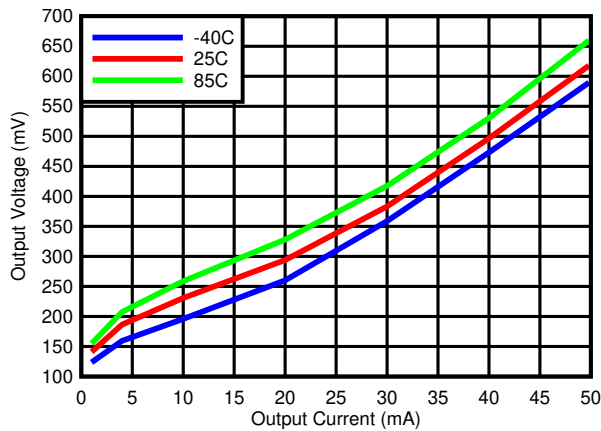
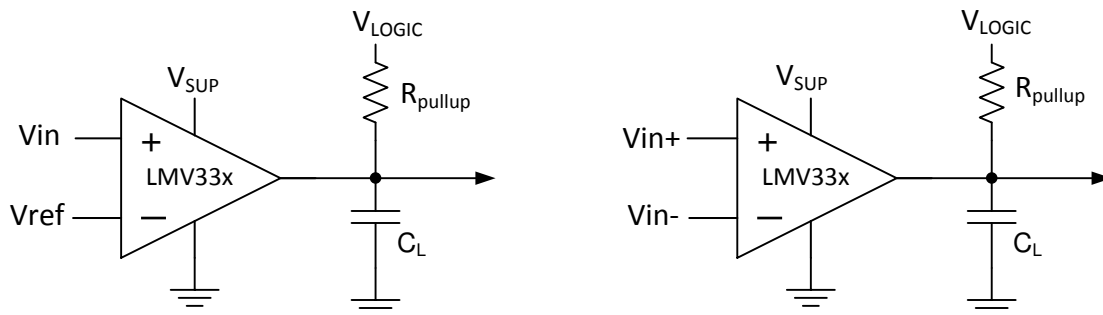

图 5-3. Output Voltage vs Output Current
图 7-1. Typical Application Schematic
The output consists of an open drain NPN (pull-down or low side) transistor. The output NPN sinks current when the negative input voltage is higher than the positive input voltage and the offset voltage. The V_{OL} is resistive and scales with the output current. Please see 图 5-3 for V_{OL} values with respect to the output current.
Output current is determined by the pull-up resistance (R_{pullup}) and Vlogic voltage, refer to 图 7-1. The output current produces a output low voltage (V_{OL}) from the comparator. In which V_{OL} is proportional to the output current. Use 图 5-3 to determine V_{OL} based on the output current.
- R_{CE} can be determine by taking the slope of 图 5-3 in it's linear region at the desired temperature, or by dividing the V_{OL} by I_{out}